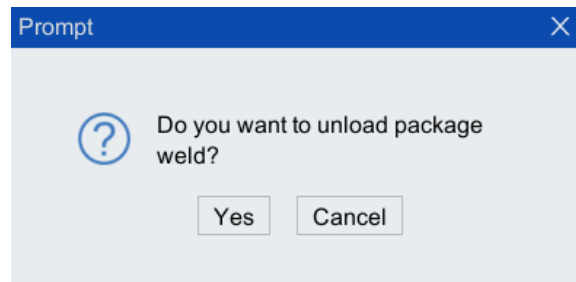

Figure 4-9 "Feature Pack Management" dialog box
Step3. Select the line where the arc welding feature pack is located, and click the "Uninstall" button to pop up the dialog box, as shown in Figure 4-9.